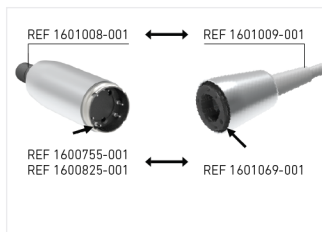

FIG. 2
1. The motors MOT MX-i REF 1600825-001 & MOT MX-i LED REF 1600755-001 are assembled with the power cable REF 1601069-001. **FIG. 2**.
2. The motor MOT MX-i LED 3RD GEN REF 1601008-001 is assembled with the power cable REF 1601009-001 as described in **FIG. 2**. Check that the rear of the motor and the cable connector are clean and dry.
3. Position the motor and its proprietary cable as shown in **FIG. 2** (The locator must be in front of the hole). Rotate it to find the exact position and push in the motor. **FIG. 3.**